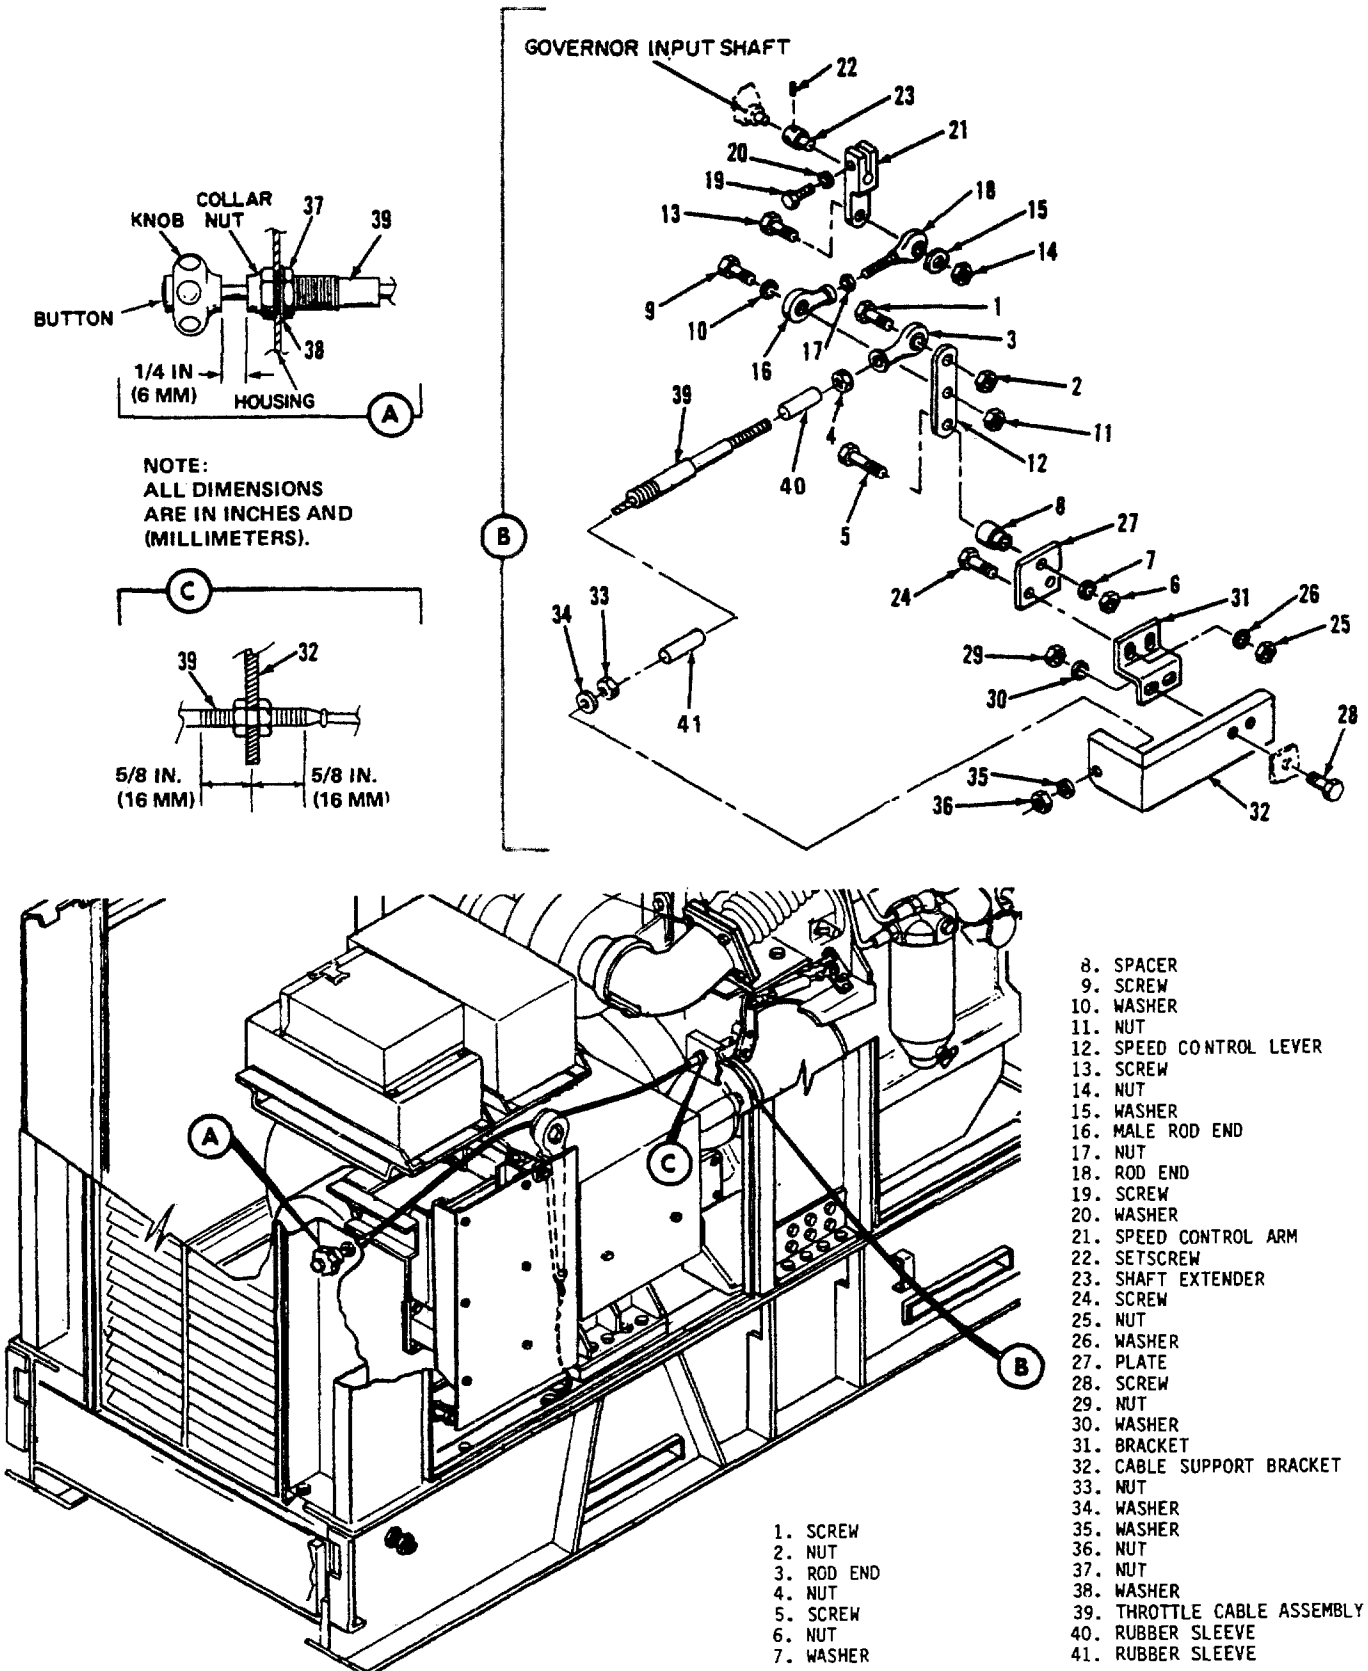

Figure 4-38. Manual Speed Control, Removal and Installation
(1) Depress locking button and slide control in and out to check that motion is free and that engine speed will vary in accordance with this motion.
(2) Rotate vernier (fine adjust) knob to increase (clockwise) or decrease (counterclockwise) engine speed and check that motion is free and that engine speed will vary in accordance with these adjustments.
c. Removal. To remove engine manual speed control, refer to figure 4-38, and proceed as follows:
(1) Remove screws (1) and nuts (2) to free rod end (3).
(2) Remove nut (4) and rubber sleeves (40 and 41).
(3) Loosen and remove nuts (33, 36, and 37), collar nut, and washers (34, 35, and 38).
(4) Remove throttle cable assembly (39).
(5) Remove screw (9), washer (10), and nut (11).
(6) Remove screw (13), washer (15), and nut (14) to free rod end (18).
(7) Remove screw (19), washer (20) to free speed control arm (21).
(8) Loosen setscrew (22) to free shaft extender (23).
d. Installation. Refer to figure 4-38 and install manual speed control and observe the following:
(1) Position throttle cable assembly (39) in housing and secure with nut (37) and washer (38). Install rubber sleeves (40 and 41).
(2) Position throttle cable assembly (39) in cable support bracket (32) as shown in detail C.
(3) When securing brackets (31 and 32) to lifting frame make sure that elongated holes in bracket (31) are centered on mounting screws.
(5) Screw rod end (3) on throttle cable assembly (39) so that approximately ten threads of control are exposed.
(6) Adjust manual speed control as specified in step d.
e. Adjustment. To adjust manual speed control, refer to figure 4-38 and proceed as follows:
(1) Depress manual speed control button and pull out knob approximately 1/4 inch (6 mm) as shown in detail A of figure 4-38.
(2) Manually rotate governor input shaft to full counterclockwise position. Position speed control arm (21) on shaft extender (23) and tighten screw (19).
(3) Depress throttle cable assembly button and move control in and out. Check for any binding. Correct cause of binding before continuing adjustment.
(4) Start engine and permit engine to warm up.